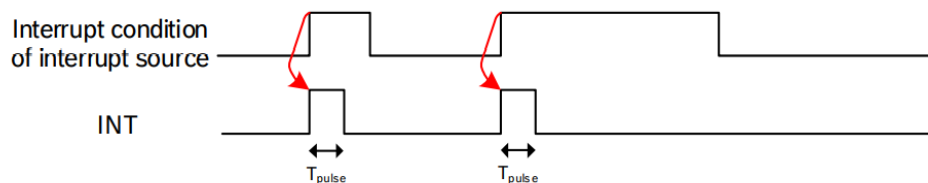

Figure 5: INT pin timing in pulsed mode
**Pulsed mode.** In the pulsed mode the INT pin creates a pulse on the interrupt pin, each time an interrupt condition changes from FALSE to TRUE, and the interrupt source is enabled in `INT_SOURCE`. Figure 5 shows the timing of pulsed mode.